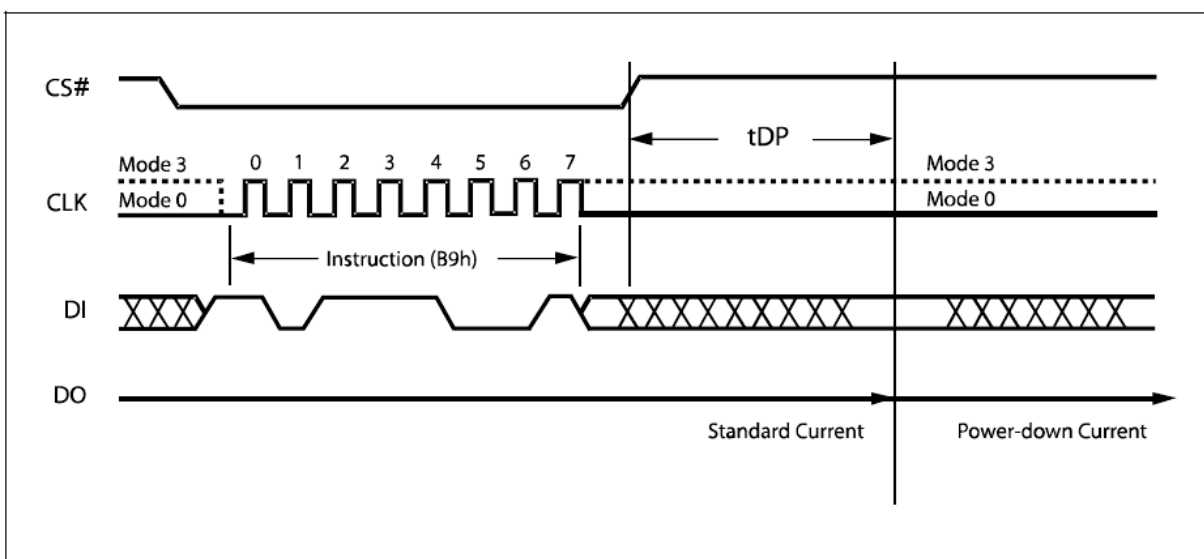

Figure 26. Deep Power-down Instruction Sequence Diagram
The instruction sequence is shown in Figure 26. Chip Select (CS#) must be driven High after the eighth bit of the instruction code has been latched in, otherwise the Deep Power-down (DP) instruction is not executed. As soon as Chip Select (CS#) is driven High, it requires a delay of t_{DP} before the supply current is reduced to I_{CC2} and the Deep Power-down mode is entered.